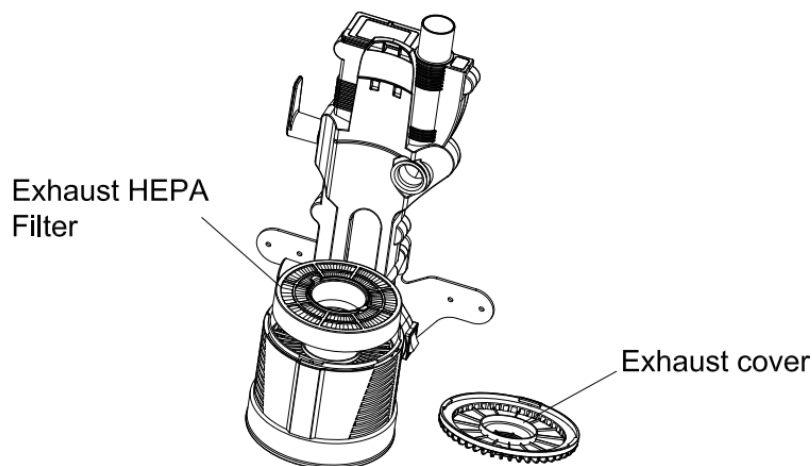

Fig 13
1. Open the exhaust cover by rotating it counter clockwise. (Fig 13)
2. Pull the exhaust HEPA out of the unit. (Fig 13)